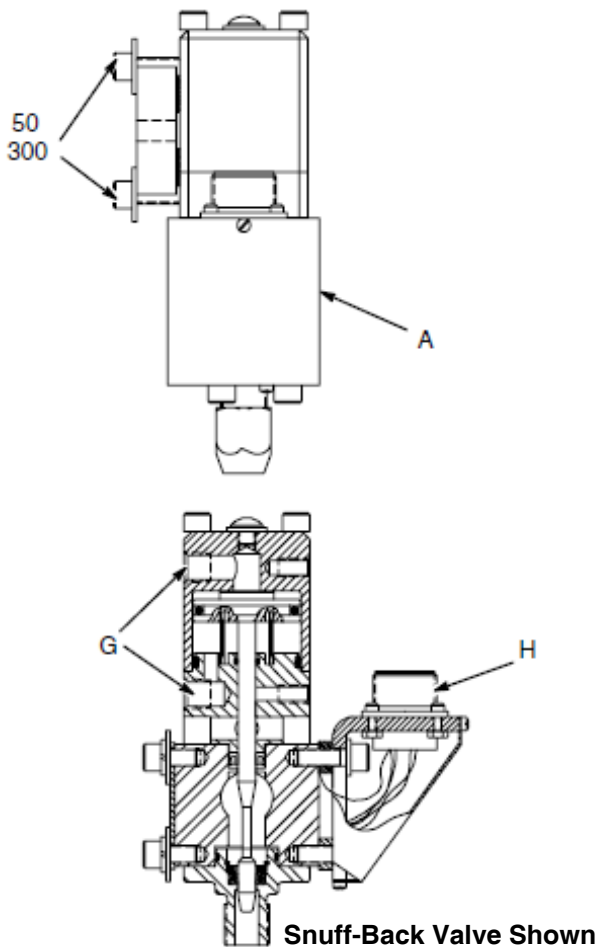

FIG. 8
2. Disconnect the cable plug from receptacle on dispense valve (H). See FIG. 8 on page 13.
3. Disconnect air lines from dispense valve air ports (G).
4. Disconnect material hose from material inlet port (A).
Reconnect the automatic dispense valve to its mounting bracket. See FIG. 8.